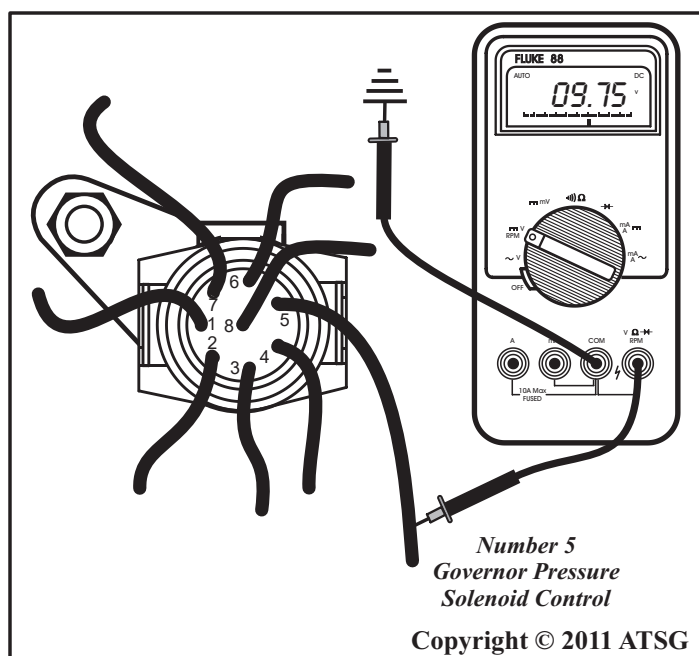

Figure 53
- (e) Maintain the negative meter lead to a known good ground and carefully backprobe into wire number 5 (Governor Pressure Solenoid) with the positive lead, as shown in Figure 53. Again using the chart in Figure 52, compare the voltage values for the governor pressure solenoid, to the actual governor pressure indicated on the gauge.